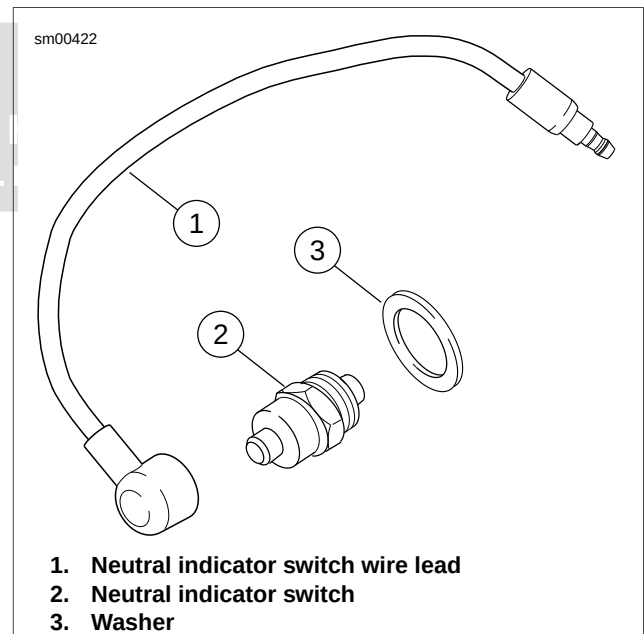

Figure 7-76. Neutral Indicator Switch
3. See Figure 7-76. Remove neutral indicator switch wire lead (1) from neutral indicator switch (2).
4. Remove neutral indicator switch and washer (3).
- a. Apply a light coating of LOCTITE THREADLOCKER 243 (blue) to **new** neutral indicator switch (2) threads.
- b. Install washer (3) over neutral indicator switch (2) threads.
- d. Connect neutral indicator switch wire lead (1) to switch.